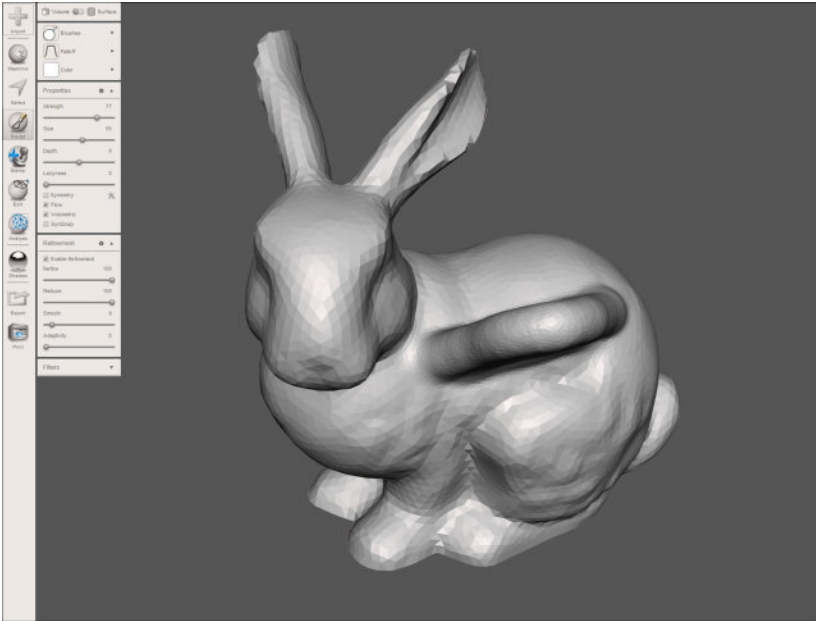

Figure 10-6. *Properties and refinement areas are adjusted in the Sculpt tool*
Before you start modifying the bunny, notice that there are settings that affect your brushes on the lefthand side. These options have a dramatic effect on how the tools work. For now, open up the settings windows to access the properties and refinement areas Figure 10-6, and adjust the settings to match the following.
3. Now, rotate your view so that you are looking at the left shoulder of the bunny. Hold your left mouse button down on the shoulder area, and while keeping the left mouse button down, start moving back and forth in a line as in Figure 10-6. If you spend a bit more time in the center than you do at the edges, you will be slowly building up a wing on the bunny.